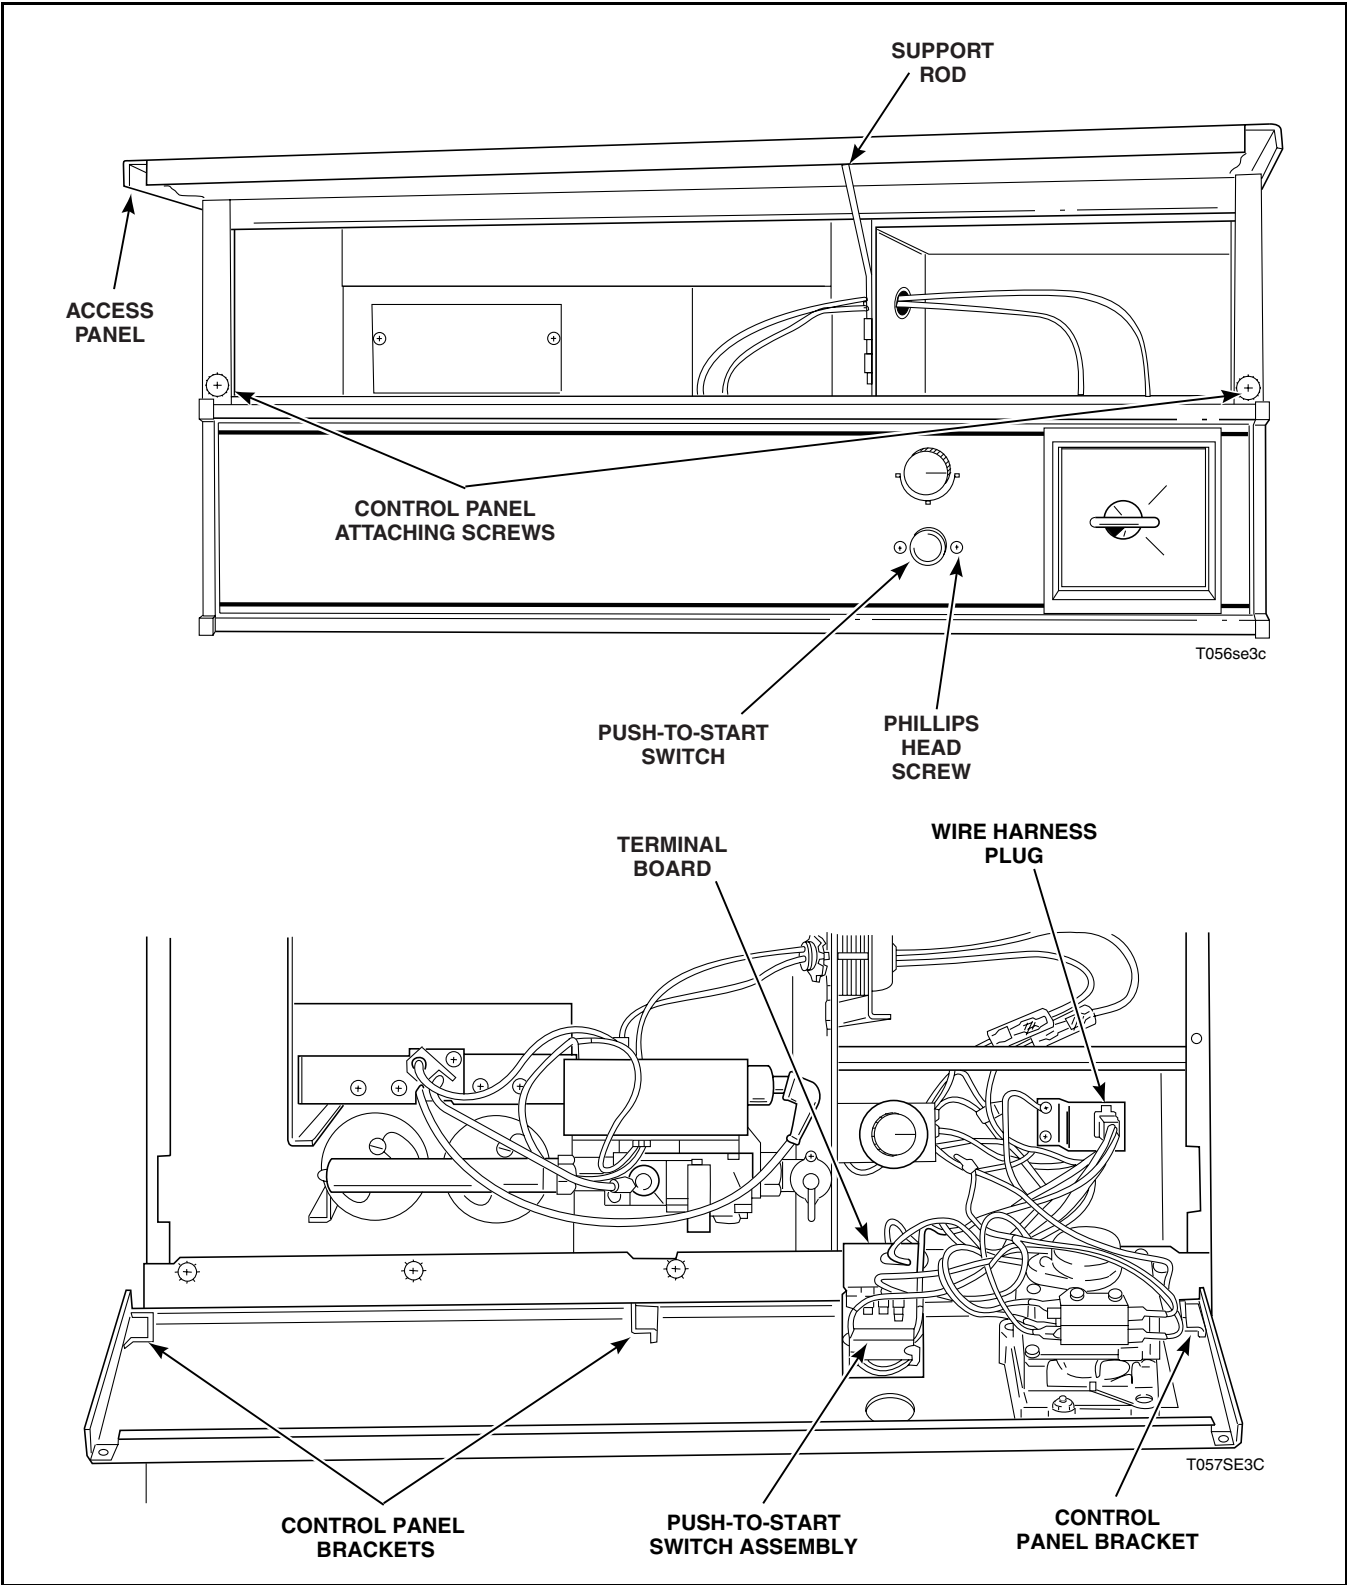

Figure 3
- Unlock and open access panel. To hold panel open, swing support rod under panel. Refer to *Figure 3*.
- (1) Remove two screws holding control panel to cabinet. Refer to *Figure 3*.
- (2) Lift control panel off top edge of front panel and pull panel forward just far enough to disconnect wire harness at the plug.
- b. Remove two screws holding switch and mounting bracket (if applicable) to control panel. Refer to *Figure 3*.